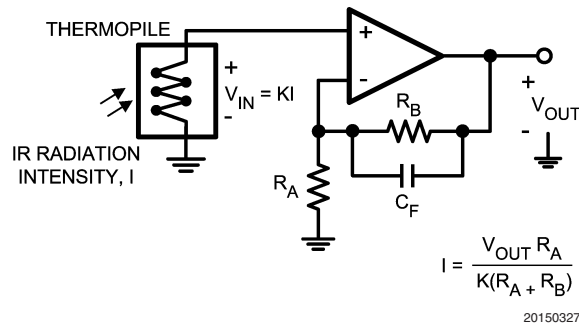

**FIGURE 7. Modified Transimpedance Amplifier**
Calculating  $C_F$  from *Equation (3)* can sometimes result in capacitor values which are less than 2 pF. This is especially the case for high speed applications. In these instances, its often more practical to use the circuit shown in *Figure 7* in order to allow more sensible choices for  $C_F$ . The new feedback capacitor,  $C'_F$ , is  $(1 + R_B/R_A) C_F$ . This relationship holds as long as  $R_A \ll R_F$ .